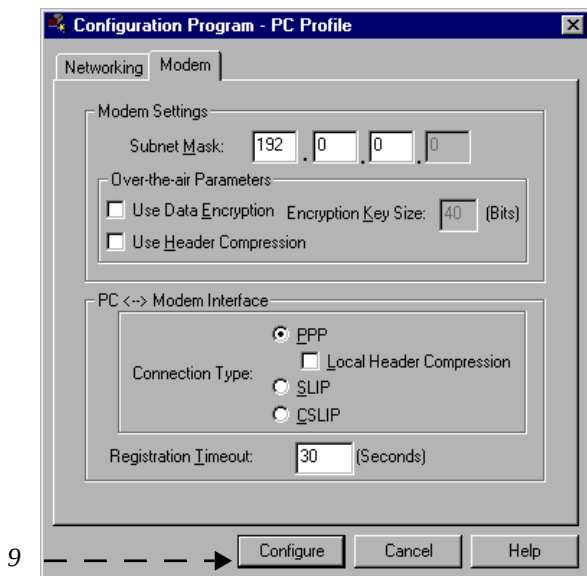

Figure 42. Modem Settings Window
8. Make sure the settings match those shown in Figure 42.